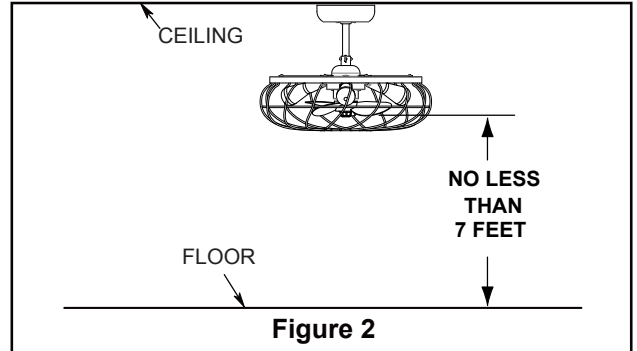

Figure 2
Your new ceiling fan will require a grounded electrical supply line of 120 volts AC, 60 HZ, 15 Amp Circuit. Electrical code requires use of a fan-rated outlet box to support the extra weight and motion associated with a ceiling fan. A fan-rated box will be labeled as such and typically supports up to a 70lbs ceiling fan. Fan-Rated Outlet Boxes vary in ratings and design. Ensure the ratings of your ceiling fan outlet box meet the requirements for the ceiling fan being installed. Figure 1, Figure 2 and Figure 3 depicts different structural configurations that may be used for mounting the outlet box.
Deep-profile use (Figure 2)
2. Remove the hanger ball portion from the dowrod/hanger ball assembly by loosening the set screw in the hanger ball until the ball falls freely down the dowrod. Remove the pin from the dowrod, then remove the hanger ball. Retain the pin and hanger ball for reinstallation in Step 7. (Figure 2)
The fan must be hung with at least 7' of clearance from floor to blades. (Figure 2)
1. Slide the receiver into the hanger bracket with the flat side up towards the ceiling. as shown in. (Figure 2)
- 2. Restore electrical power to the outlet box by turning the electricity on at the main fuse box. (Figure 2)
Align the U-slot of the fan blade with the locating pin of the motor rotating shaft. The pin should sink into the U-slot of the fan, then insert the hairpin into the side hole of the motor rotating shaft and clamp it on the motor rotating shaft. Finally, screw the fan nut cover into the middle shaft of the motor and tighten it counterclockwise to fix the fan blade. (Figure 2)
The U-slot of the fan blade must be installed on the locating pin of the motor rotating shaft, otherwise the fan cannot run.(Figure 2)